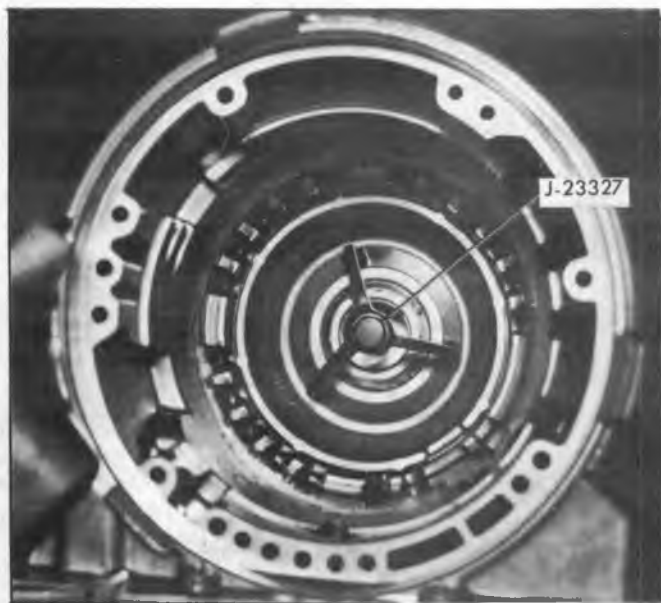

Fig. 46M--Compressing Low and Reverse Clutch Piston Spring Retainer
21. Compress low and reverse clutch piston spring retainer using tool J-23327 (fig. 46M) and remove piston retaining ring and spring retainer.